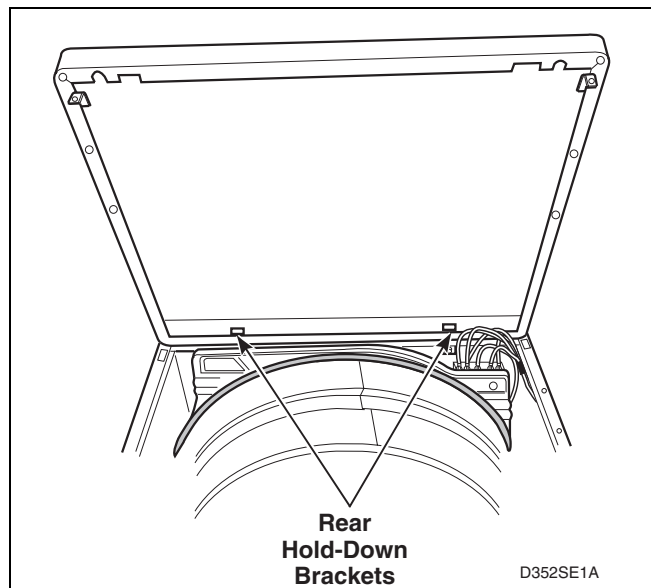

Figure 30
- g. Lift cabinet top to a vertical position by hinging it on the rear hold-down brackets. Refer to *Figure 30*.